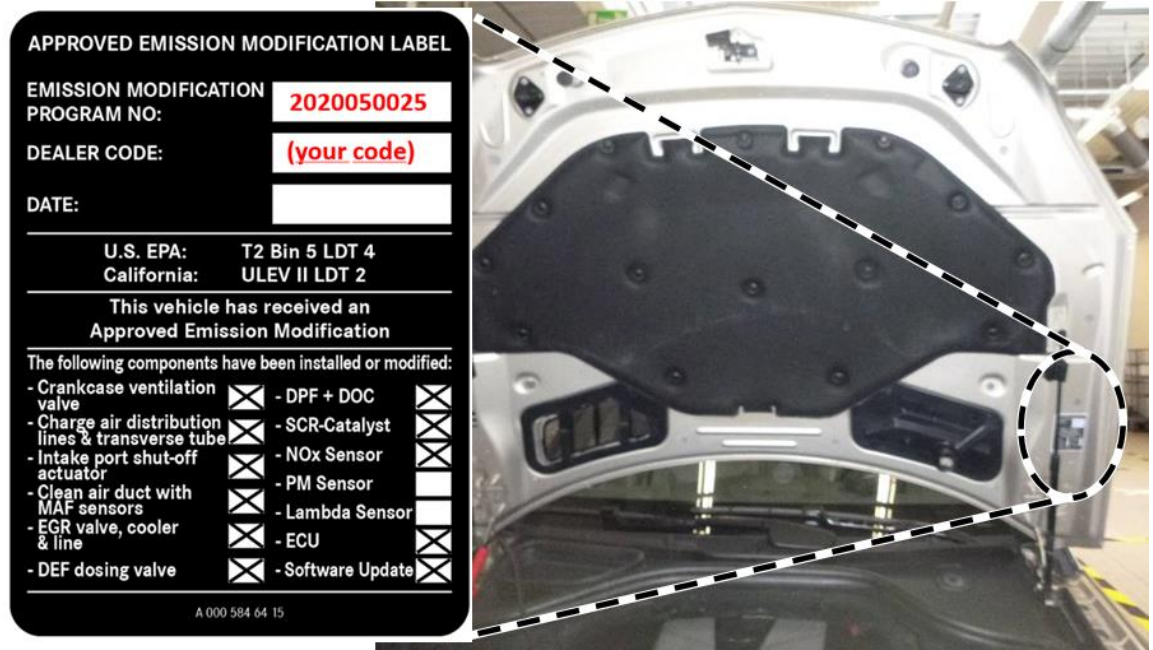

Figure 6
12. Clean the bonding surface of the hood and attach the adhesive label (A 000 584 64 15) (Figure 6).
i The fields on the adhesive label must be filled out correctly. Please use black permanent marker. Refer to (Figure 6) within the XENTRY procedure.